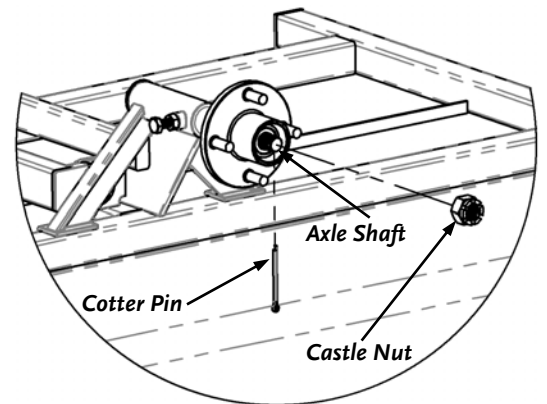

Figure 33
6. Using Needle Nose Pliers straighten the Legs of the Cotter Pin and remove it from the Castle Nut (**Figure 33**) and then unscrew and remove the Nut from the Axle Shaft counterclockwise.
13. Align a Slot in the Castle Nut with the Hole in the Axle Shaft and insert a new Cotter Pin fully into the Castle Nut (**Figure 33**). Bend over the Legs of the Cotter Pin with Needle Nose Pliers and cut off the excess using Wire Cutters.